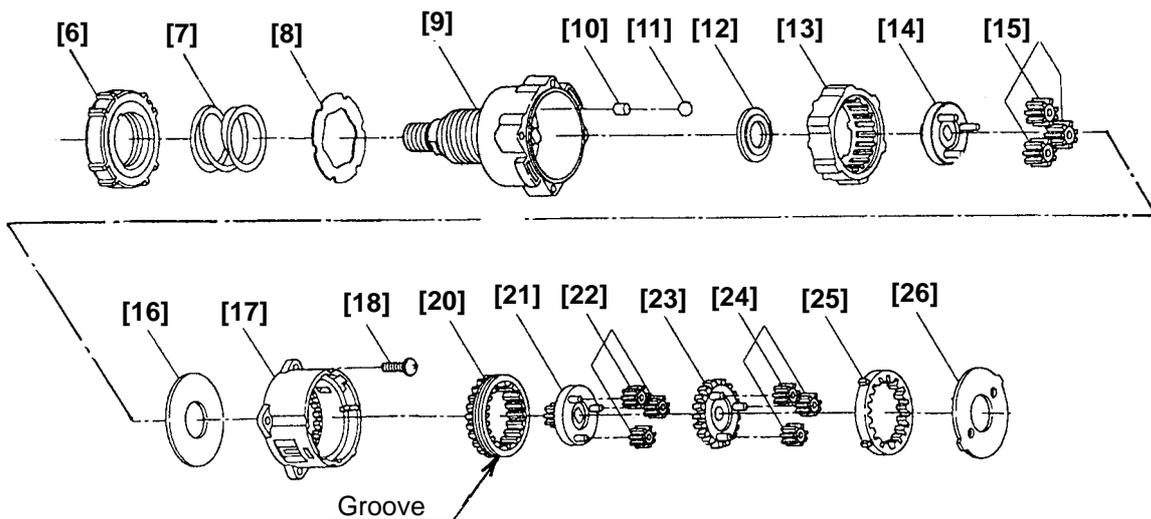

Fig. 7
(3) Reassembly of the gear unit
- (b) Install the parts series from the six Rollers [10] to Washer (B) [26] into the assembly reassembled in step (2). (See Fig. 7.)